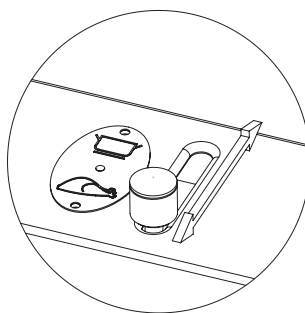

Figure 6b.
2. for simultaneous cooking, baking/roasting, and space heating, or for space heating only, set the stove operating mode selector handle to the position shown in Fig. 6b.
Baking/roasting - Set the stove operating mode handle to the position shown in Fig. 6b, adjust the draft to a medium level, and keep the oven door closed after inserting the baking tray.
Set the operating mode selector handle to the position shown in Fig. 6b, and adjust the draft to a medium level.